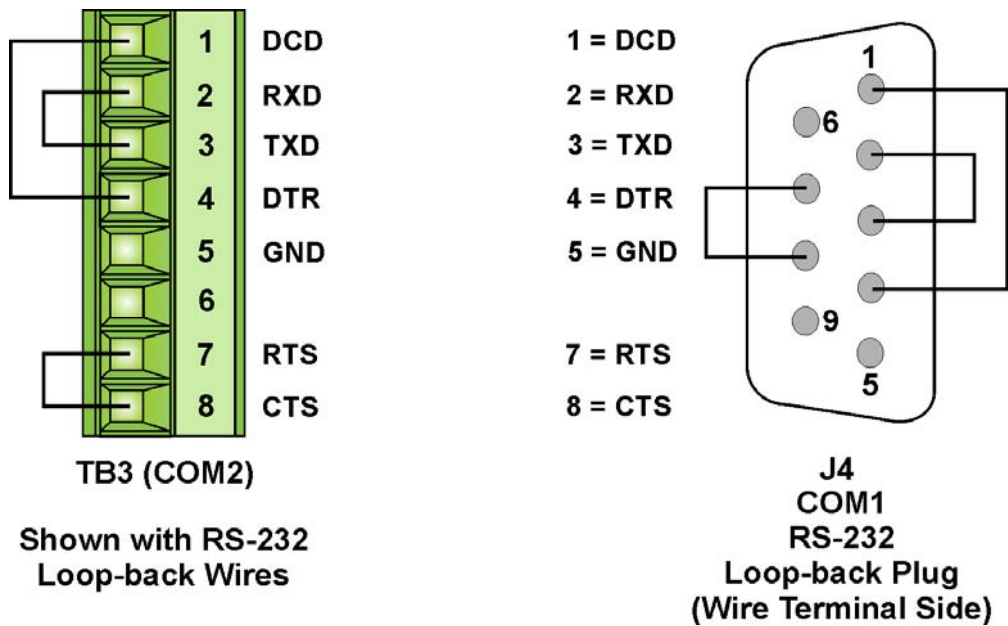

Figure 3-8 - COM1 & COM2 RS-232 Loop-back Plug/Wires
ControlWave Express electronics can be tested using the WINDIAG program. From WINDIAG's Main Diagnostics Menu (see Figure 3-8) the following diagnostic tests can be performed:
- Port 1 - RS-232 use a 9-pin female D-type loop-back plug (see Fig. 3-8).
- Port 2 - RS-232 use loop-back wires (see Figure 3-8).
Connect an external loop-back plug or loop-back wires to the Communication Port to be tested (see Figures 3-8 and 3-9).